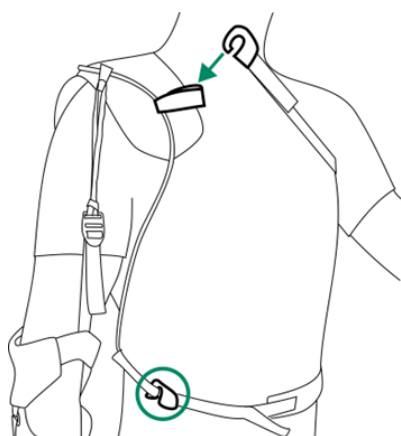

Figure 11
5. Wrap the torso straps around the body (upper strap just below the armpit, lower strap just above the hips). Secure the plastic hooks to the loops at the front of the bracket (Fig. 11).